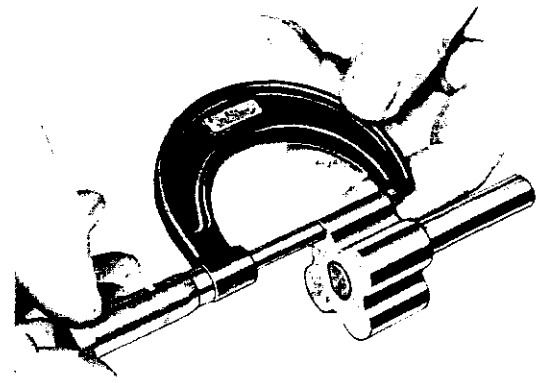

Fig. 5—Measuring the Inner Rotor Thickness
(4) If the inner rotor length measures less than .943 inch (Fig. 5), a new inner rotor should be installed.
(5) Slide the outer rotor and inner rotor into the